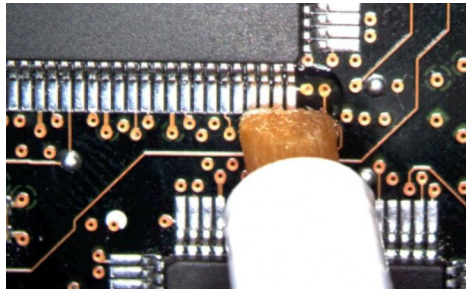

Figure 51 Applying Flux
- 3 Apply flux to your target leads as shown in **Figure 51**.